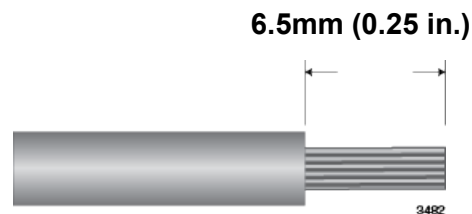

Figure 54. Stripping a Power Cable Wire
1. Strip 6.5mm (0.25 in.) of insulation from the ends of the stranded power wires with a wire insulator stripper. Refer to Figure 54.